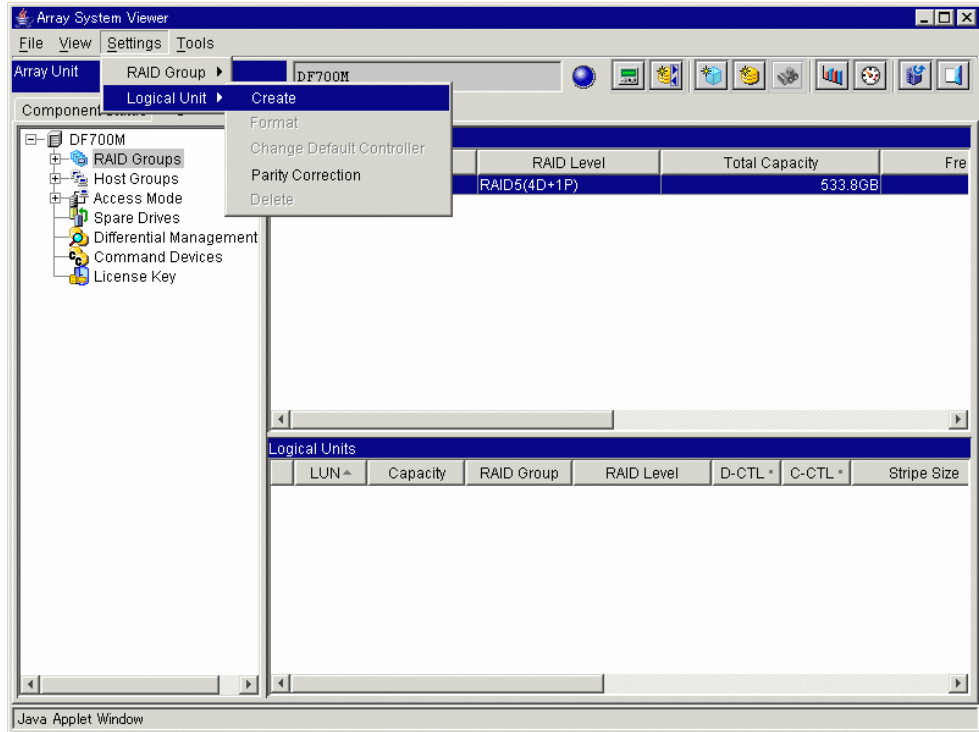

Figure 5.16 Array Unit - Create Logical Unit
1. Click the **Logical Status** tab on the Array Unit screen. See Figure 5.16.
3. On the **Settings** menu, select **Logical Unit** and click **Create**, or click . See Figure 5.16.